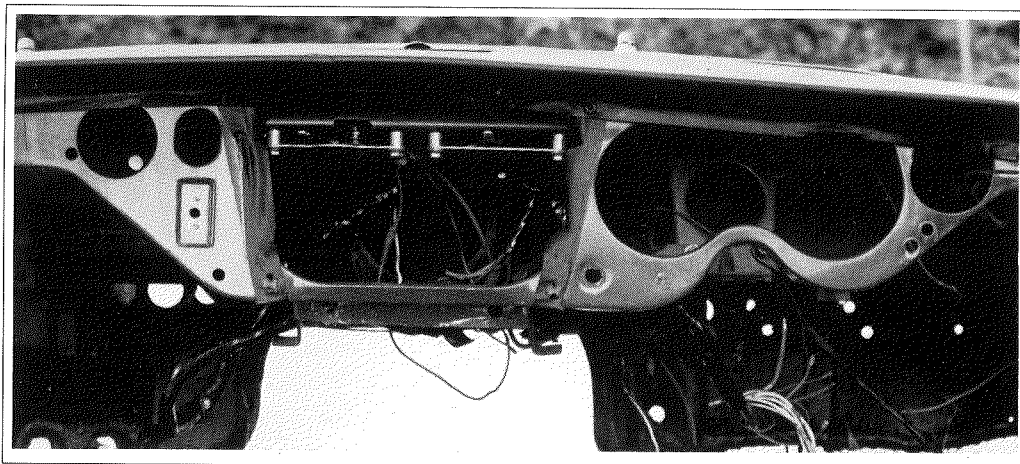
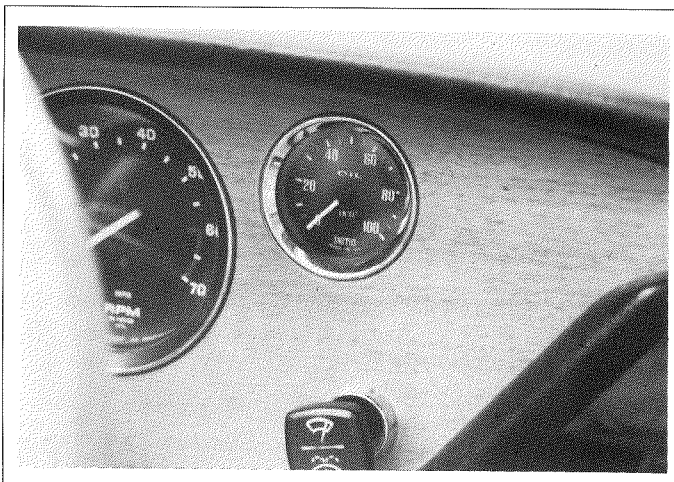
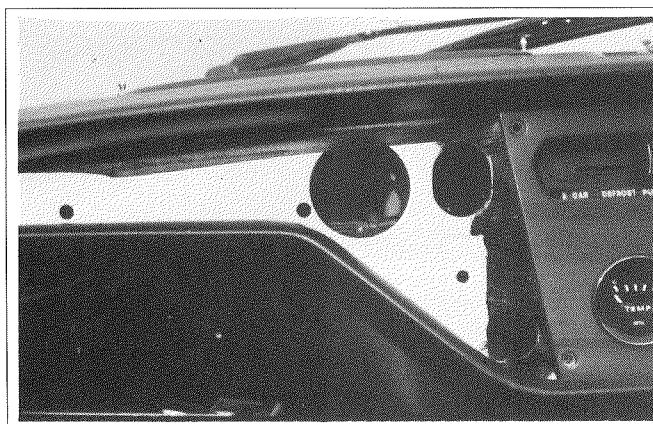
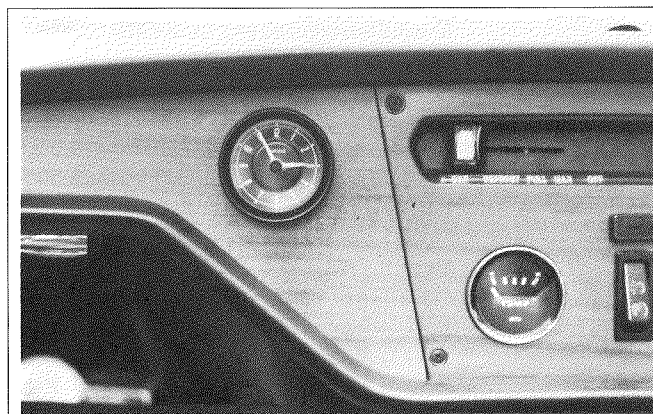

Fig.1 - The precut holes in the steel backing to the dashboard.
Fig.2 - Oil gauge position corresponding to R.H. precut hole.
Fig.3 - Precut hole too close to edge of dash(?)
Fig.4 - Clock positioned more centrally in dash.
b) Since the Spitfire bulkhead/scuttle is common to the GT6 Mk2 and 3, then the steel backing to which the veneered dash is secured has 2 precut holes where the air ball ventilators on the GT6 would be fitted. Fig. 1. These provide ideal locations for 2 additional gauges Fig 2. Having said that, personally I find that these positions are too close to the edge of the dash (fig 3) and need moving across by cutting out additional metal (fig 4).